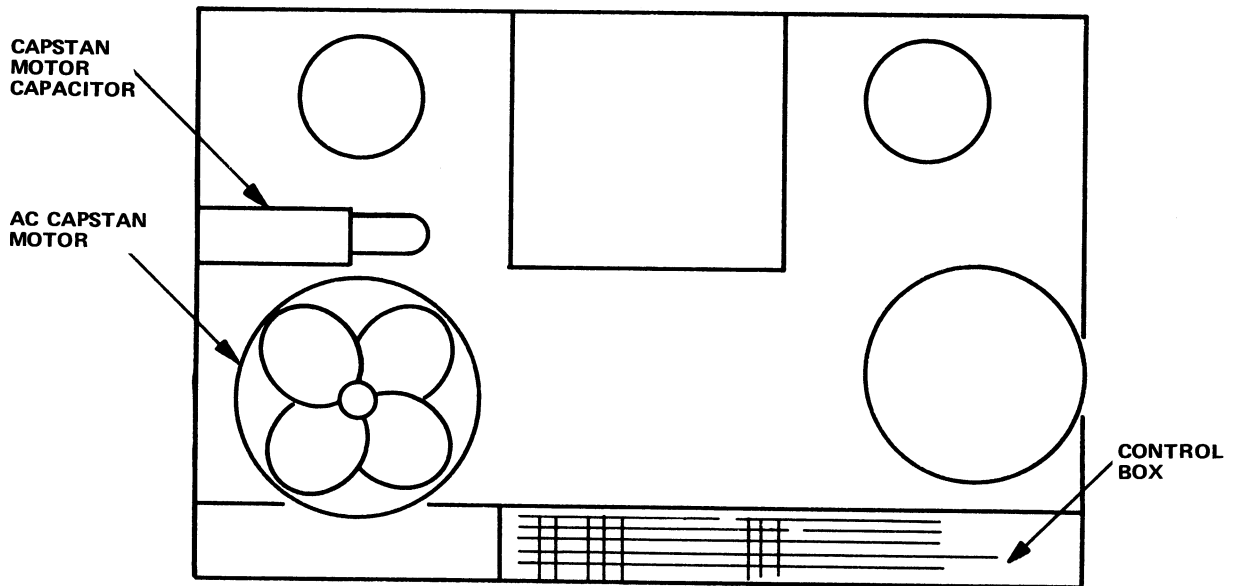

Figure 2. Underside of Transport Assembly
5. Remove the capstan motor capacitor from the underside of the transport casting. Refer to Figure 2.